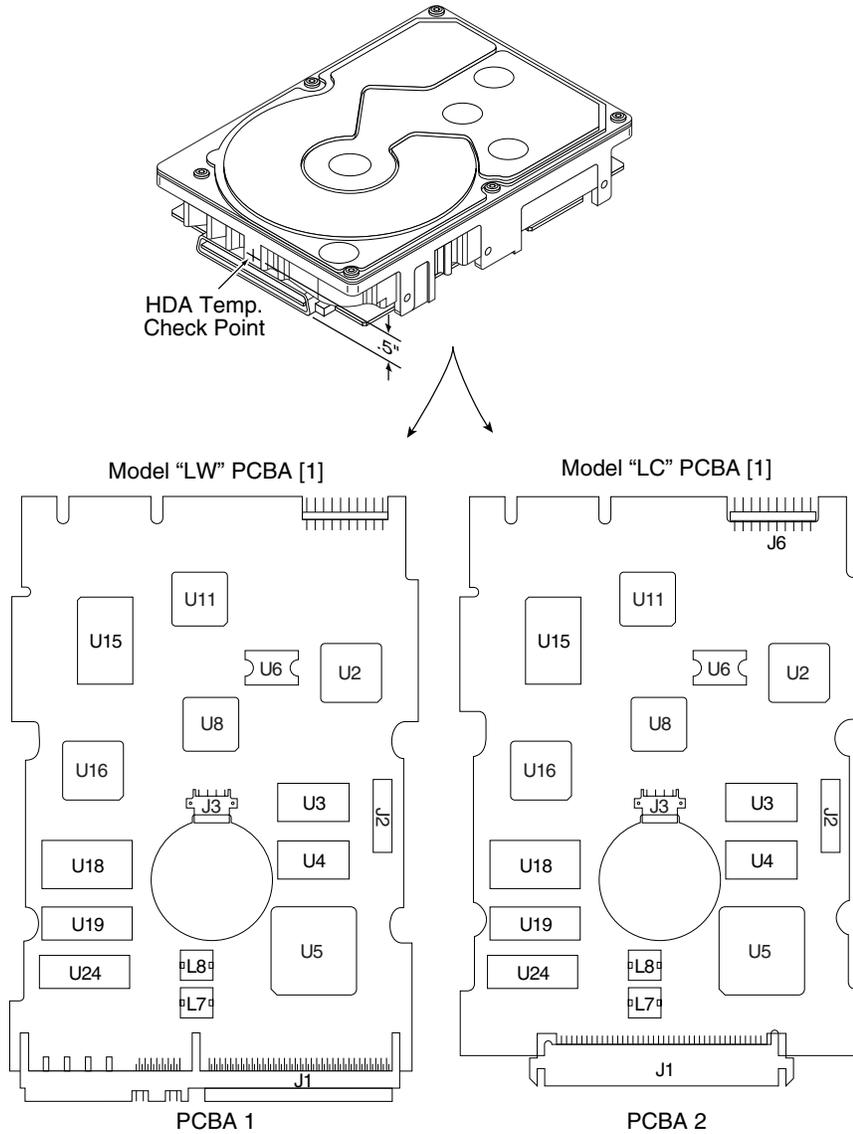

Figure 11. Locations of PCBA components listed in Table 3
- [3] Measure HDA temp at point labeled "HDA" on Figure 11.